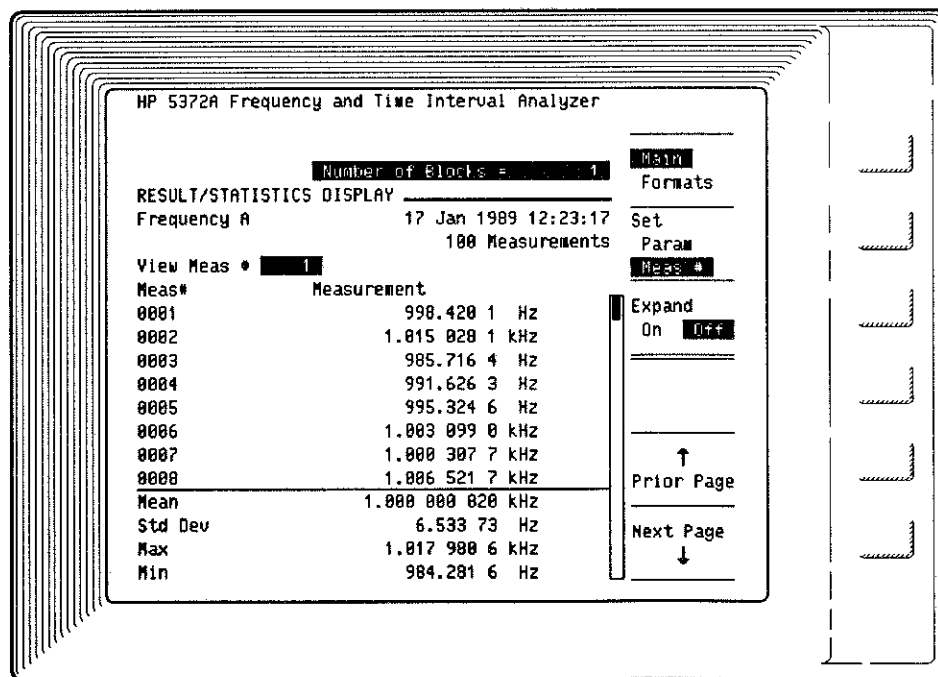

Figure 3-17. Numeric Results Screen
1. Adjust A2R12 such that the "Min" frequency indicates values as low as possible yet all greater than 900 Hz. See Figure 3-17 for an example of the display being referenced.